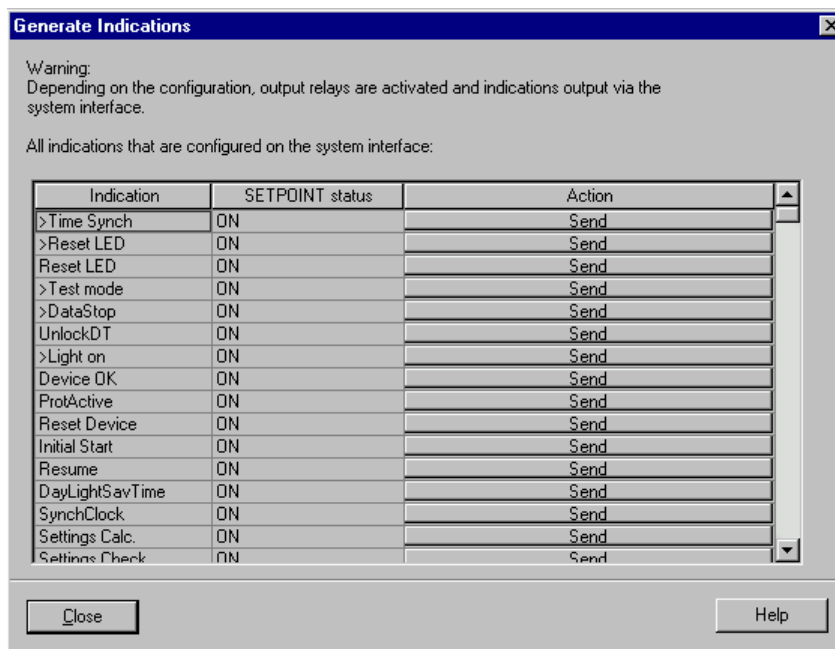

Figure 3-21 Dialog box: Generate indications — example
- Double-click on **Testing Messages for System Interface** shown in the list view. The dialogue box **Generate Indications** opens (refer to Figure 3-21).